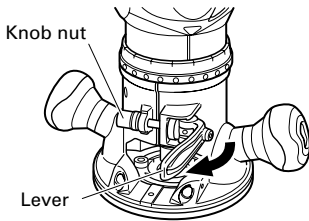

Fig. 5
- (3) Clamp the lever down until the point where a click can be felt. (Fig. 5)